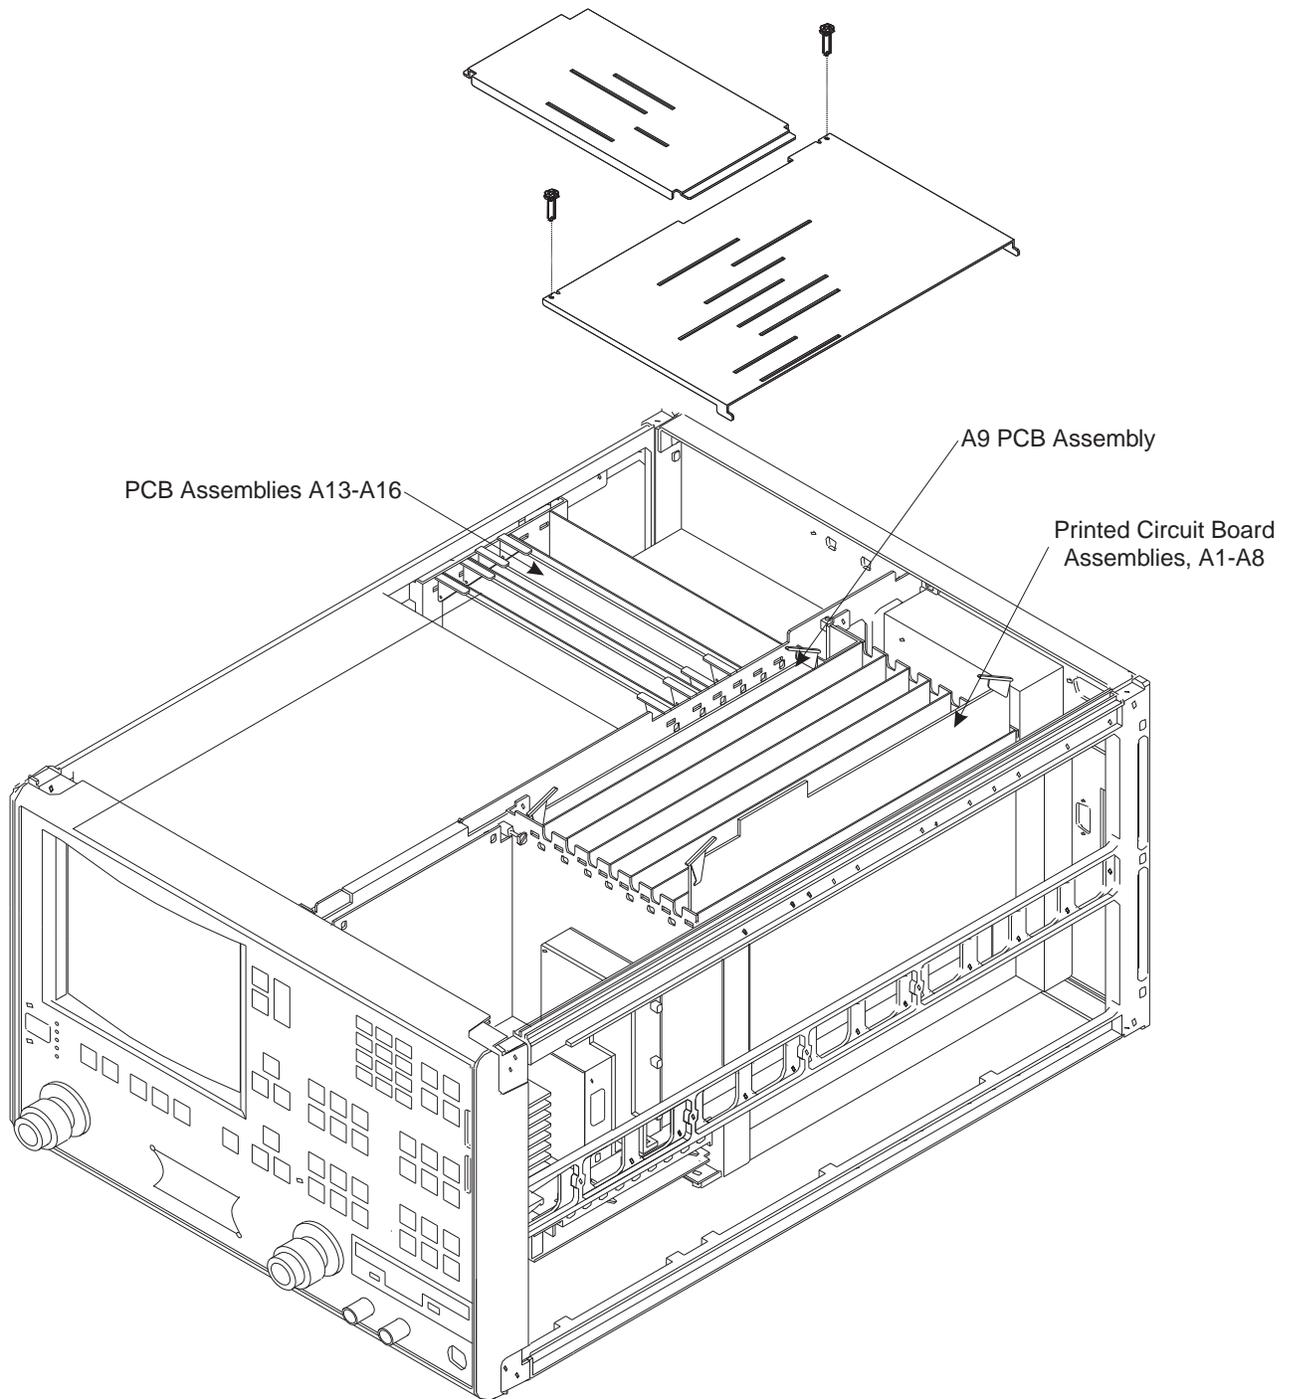

Figure 8-2. A1 to A16 PCB Assemblies Removal Diagram
- Step 2. Remove the two screws that secure the large card-cage cover (Figure 8-2).